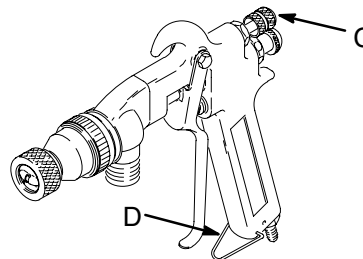

Fig. 2 01808
The operator controls the air flow at the gun. During priming, turn the gun’s Air Control Valve (C) in fully to prevent air from mixing with the fluid, which allows you to check and adjust the fluid flow accurately. (When this valve is closed the air exits the rear of the gun.) During operation, open the Air Control Valve to introduce air at the correct volume for the desired spray pattern. The gun also has a trigger bail (D) to reduce operator fatigue when spraying large surfaces. See Fig. 2.